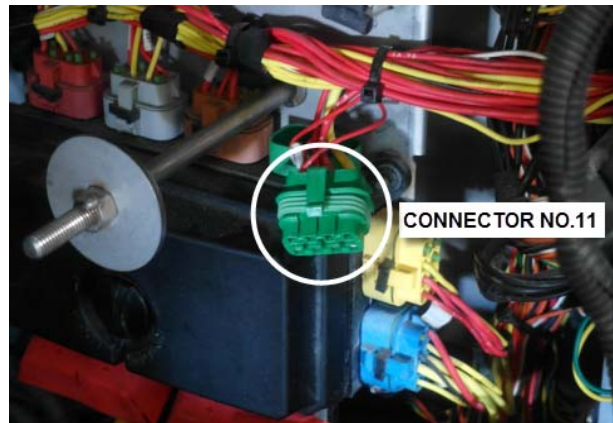

FIGURE 12
3. Using an extractor tool or a small flat blade screwdriver, remove wire 24VDALT from cavity H of connector no.11 (FIGURE 12 to FIGURE 15).